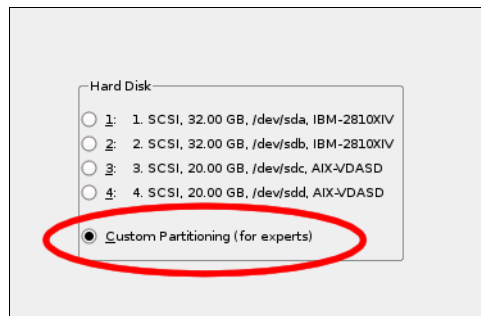

Figure 4-8 Preparing Hard Disk: Step 1 window
3. In the Preparing Hard Disk: Step 1 window (see Figure 4-8), make sure that **Custom Partitioning (for experts)** is selected. Which disk device is selected in the Hard Disk field does not matter. and click **Next**.